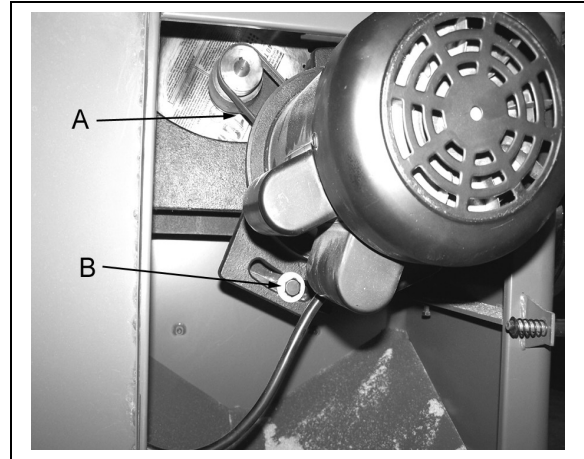

Figure 26
3. Loosen the hex nut (B, Figure 26).
4. Take tension off of the belt (A, Figure 26) by lifting up on the motor.
6. Replace and tension the belt. The weight of the motor should apply sufficient tension to belts. Tighten the hex nut (B, Figure 26).